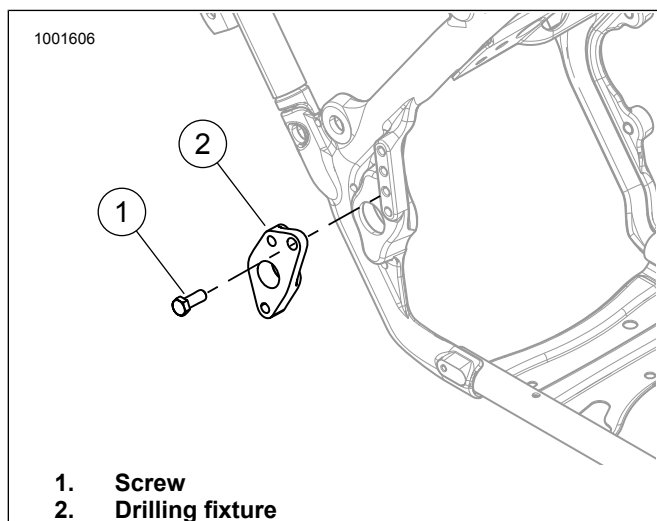

Figure 1. Install Drilling Fixture
1. See Figure 1. Attach drilling fixture (2) to the right rear mount casting.
- Install 3/8 x 1 in screw (1) into third from the top passenger footrest mounting hole.